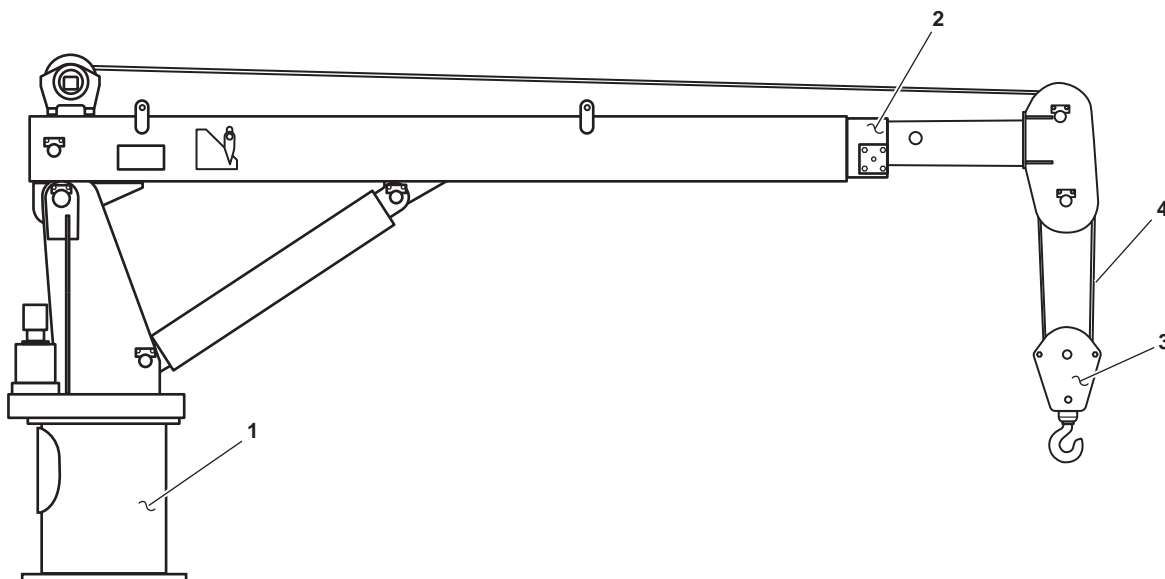
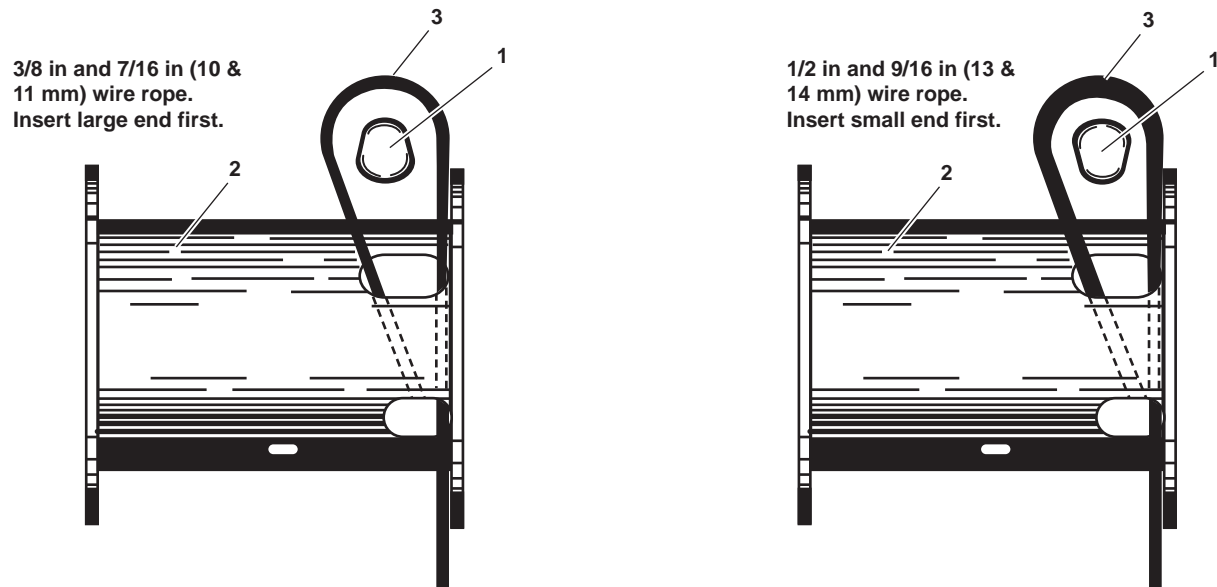

Figure 1. Crane Winch
Figure 2. Crane Winch Drum
1. Prepare the crane (figure 1, item 1) for operation under usual conditions (WP 0005 00).
2. Fully extend the boom (figure 1, item 2) of the crane (figure 1, item 1) (WP 0005 00).
- Lower the block (figure 1, item 3) (WP 0005 00) to the deck of the vessel and allow the wire rope (figure 1, item 4) to be laid out on the deck until the wire rope heart (figure 2, item 1) is visible in the crane winch drum (figure 2, item 2).
- Remove the heart (figure 2, item 1) from the crane winch drum (figure 2, item 2).
- Remove the wire rope (figure 2, item 3) from the heart (figure 2, item 1).
- Install the wire rope (figure 2, item 3) on the heart (figure 2, item 1).
- Install the heart (figure 2, item 1) in the crane winch drum (figure 2, item 2).
- Fully raise the boom (figure 1, item 2) and raise the block (figure 1, item 3) (WP 0005 00) until all wire rope (figure 1, item 4) is installed on the crane winch drum (figure 2, item 2).